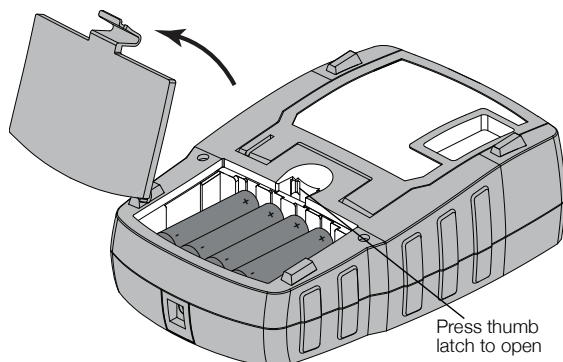

Figure 2
- 1 Press the thumb latch on the back of the printer to remove the battery compartment cover. See Figure 2.
- 2 Insert the batteries following the polarity markings (+ and -). See Figure 2.